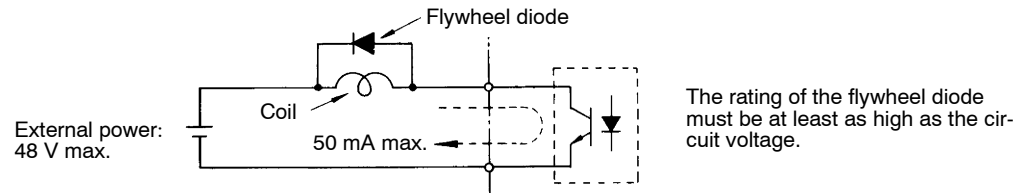

Fig 3.7 Flywheel Diode Connection
* When driving an L load, such as a relay coil, always insert a flywheel diode as shown in *Figure 3.7*.